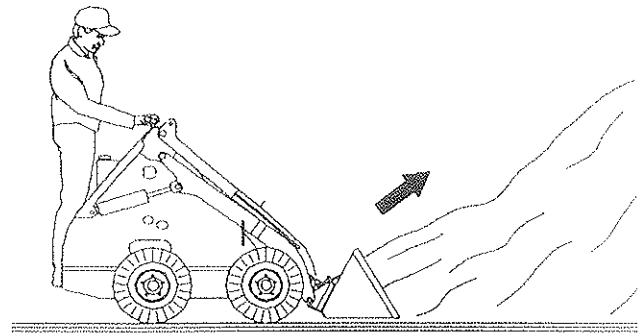

FIGURE 13
2. As soon as the bucket is full, tilt bucket back and back away from the pile, as shown in **Figure 13** and **14**.